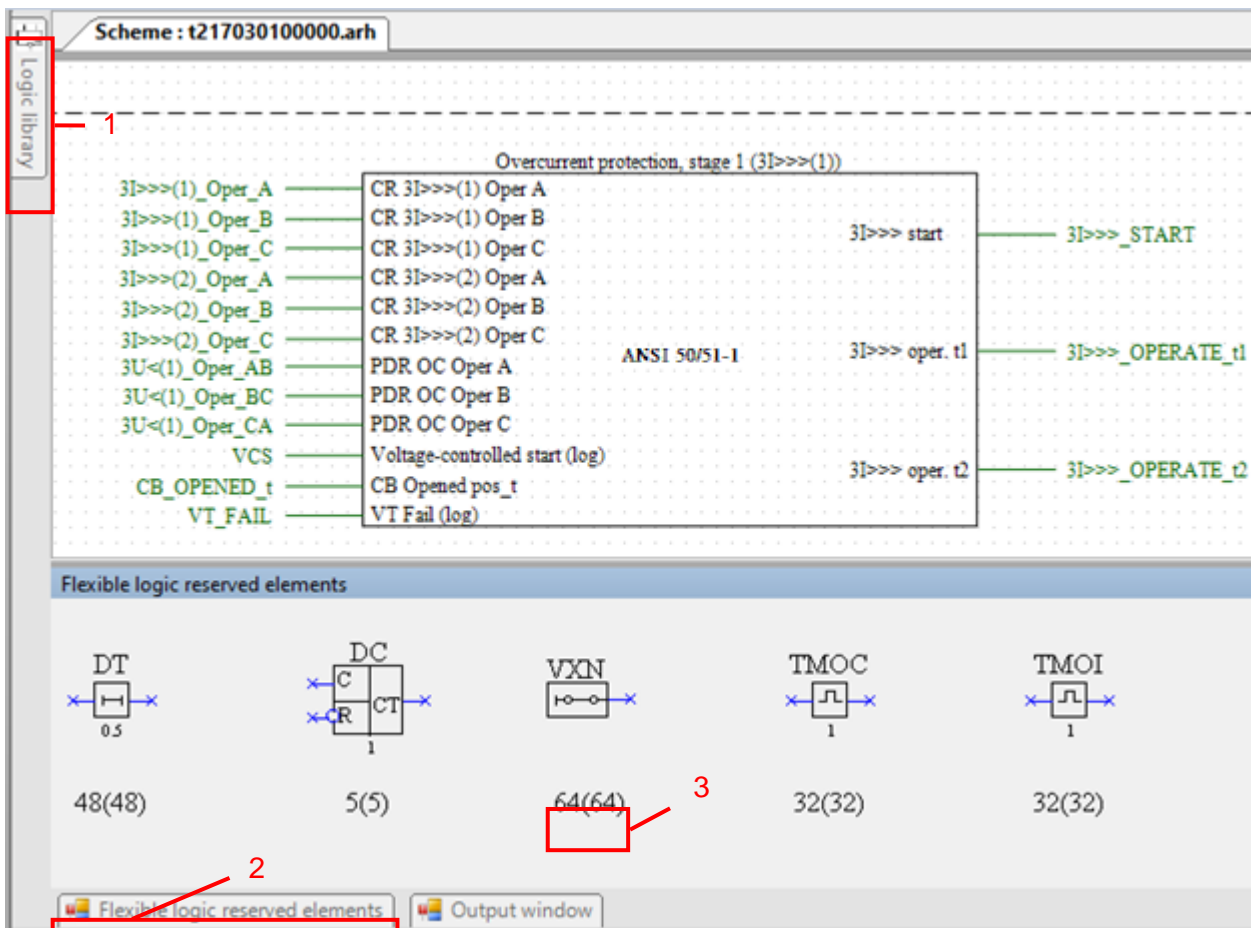

Figure 195 – Editing of programmable logic diagram
In the programmable logic, elements without settings in the **Library** tab (figure 195, item 1) or with settings in the **Reserved elements of additional logic** tab (figure 195, item 2) can be used. The use of logic elements with settings, as well as R_Trig and F_Trig triggers, is strictly limited. These elements are available in the special **Reserved elements of additional logic** window. The maximum number of elements is indicated in brackets, and the available quantity is outside the brackets (figure 195, item 3).